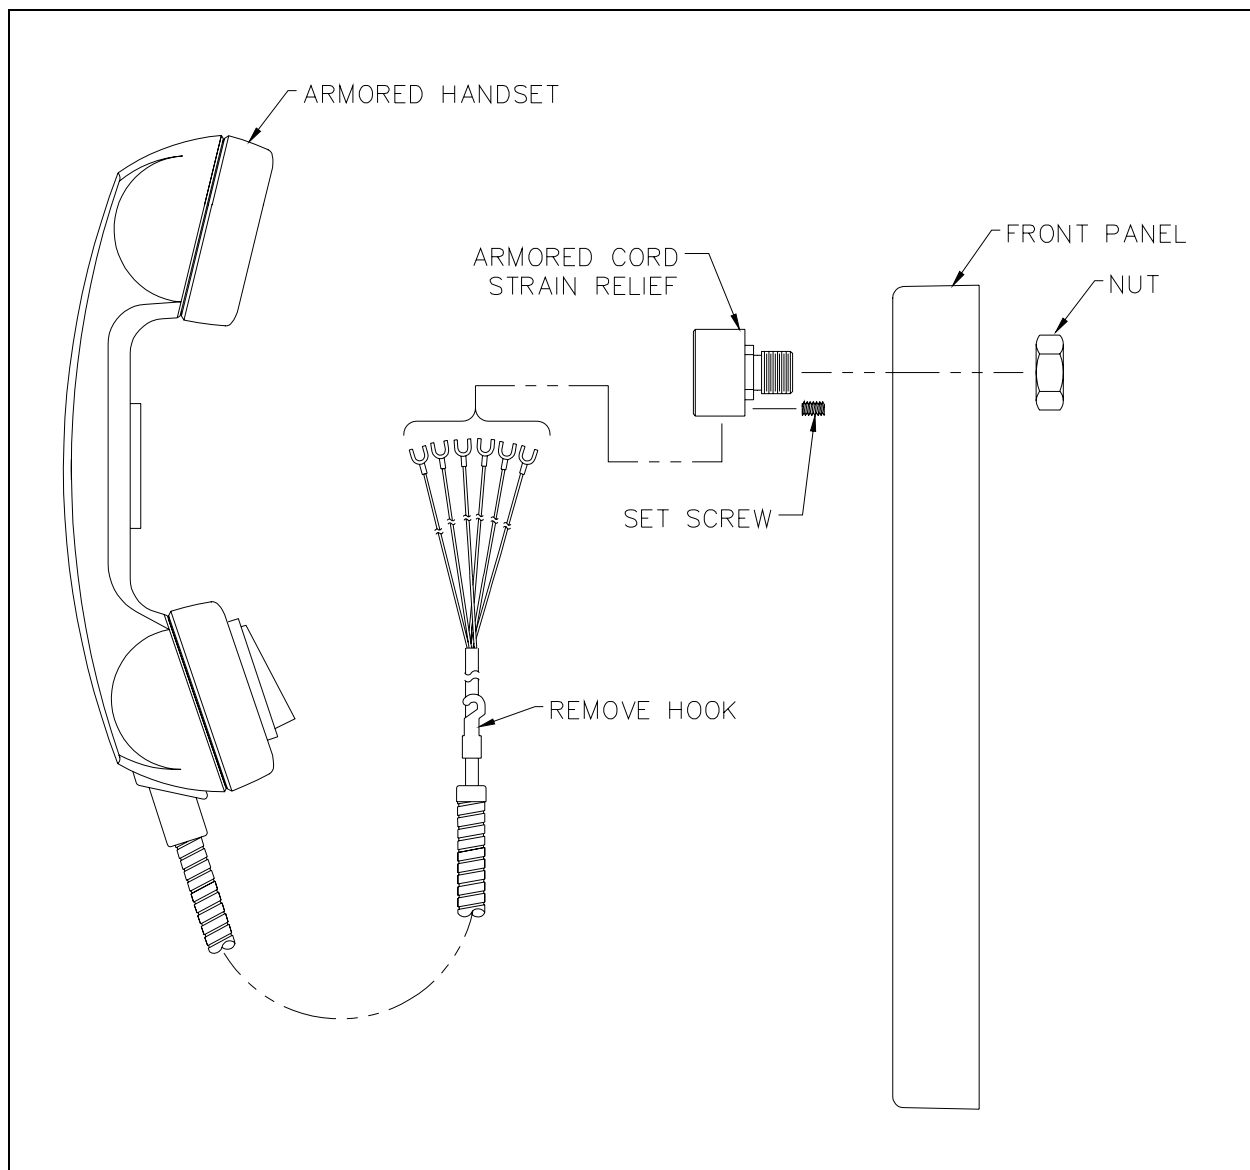

Figure 1. Handset with Armored Cord Replacement
1. At the end of the armored cord, remove the hook from the cord, then feed the wires through the armored cord strain relief using needle-nose pliers. Pull each wire through the threaded end of the strain relief until the end of the armored cord enters the strain relief. Refer to Figure 1.